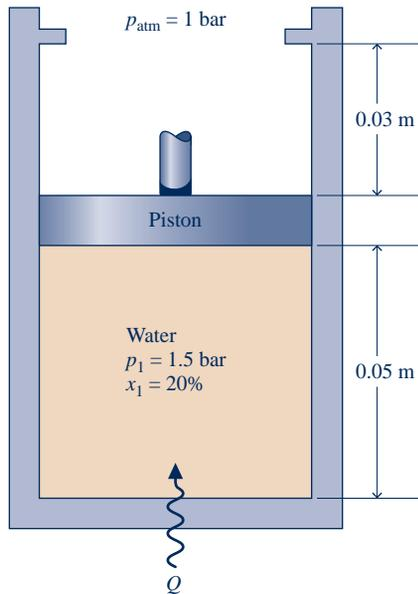

Fig. P3.70
- 3.70** Referring to Fig. P3.70, water contained in a piston–cylinder assembly, initially at 1.5 bar and a quality of 20% , is heated at constant pressure until the piston hits the stops. Heating then continues until the water is saturated vapor. Show the processes of the water in series on a sketch of the T – v diagram. For the overall process of the water, evaluate the work and heat transfer, each in kJ/kg. Kinetic and potential effects are negligible.